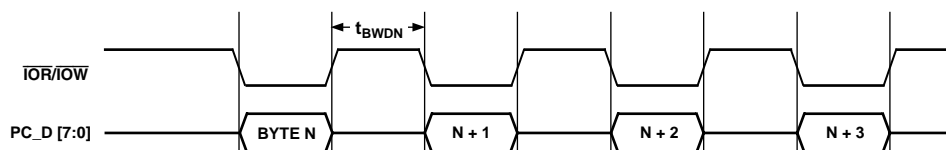

Figure 15. Codec Transfers
After setting format bits, sample data into the AD1816A must be ordered according to Figure 15, Table VI.
- CFMT [1:0] (RW) Capture Format. Use these bits to select the format for capture data according to the following Table VI and Figure 15.